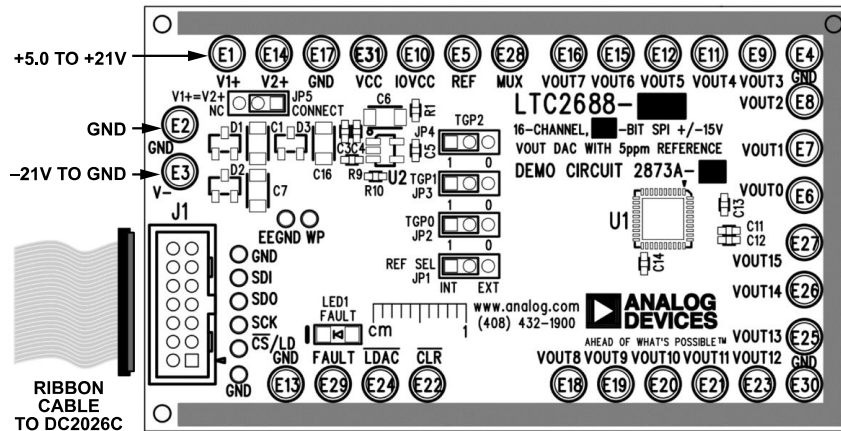

Figure 2. DC2873A Hardware Connections
The DC2873A requires the power connections and connection to the DC2026C controller board shown in Figure 2. The ribbon cable provided in the evaluation kit connects the DC2873A and the DC2026C via the J1 connector. Turrets are provided to connect the DC2873A to the power supplies.
1. Connect the DC2026C to the DC2873A via the J1 connectors with the ribbon cable provided (see Figure 2).